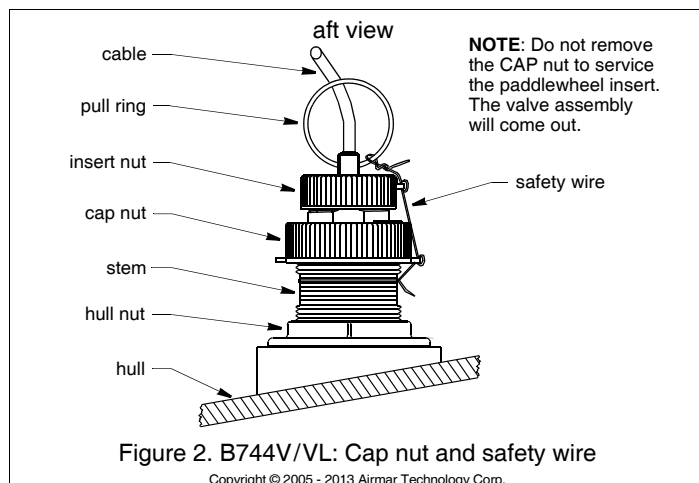

Figure 2. B744V/VL: Cap nut and safety wire
Being sure the valve assembly is seated firmly within the housing, carefully screw the CAP nut in place (Figure 2). **Hand-tighten** only. Do not over tighten.
3. Attach the safety wire to prevent the insert from backing out in the unlikely event that the cap nut and/or insert nut fails or is screwed on incorrectly. Wrap one end of the safety wire tightly around the stem of the housing and twist it together with the long end (Figure 2). Keeping the wire taut throughout, lead the wire straight up and through one eye in the CAP nut. Thread the wire through the eye a second time. Lead the wire in a counterclockwise direction and thread it through the eye in the INSERT nut. Thread the wire through that eye a second time. Loop the wire through the pull ring and twist the wire securely to itself.
2. Remove the paddlewheel insert from the housing by removing the safety wire from the pull ring and the INSERT nut (Figure 2). Unscrew the INSERT nut. **Do not remove the CAP nut, as the valve assembly will come out.**
5. Reattach the safety wire (Figure 2).
2. Remove the safety wire and unscrew the CAP nut (Figure 2). With the blanking plug ready in one hand, *remove the paddlewheel insert and valve assembly as one unit* by grasping the pull ring and pulling upward. Rapidly replace the valve assembly with the blanking plug to minimize the flow of water into the boat. **Temporarily** secure it with the safety wire. *Do not leave the boat in the water unattended.* This is not a watertight or secure seal!
8. Reattach the safety wire (Figure 2).